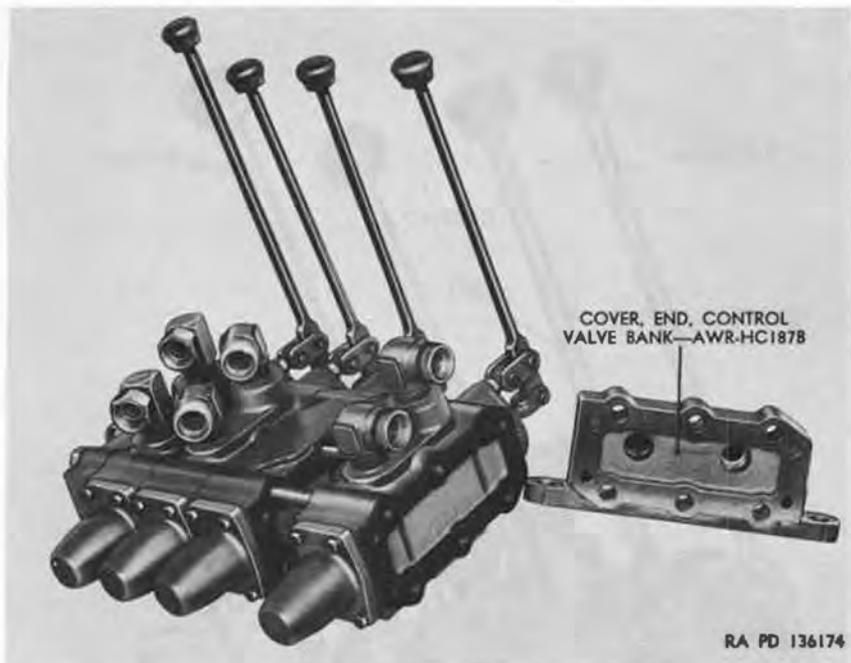
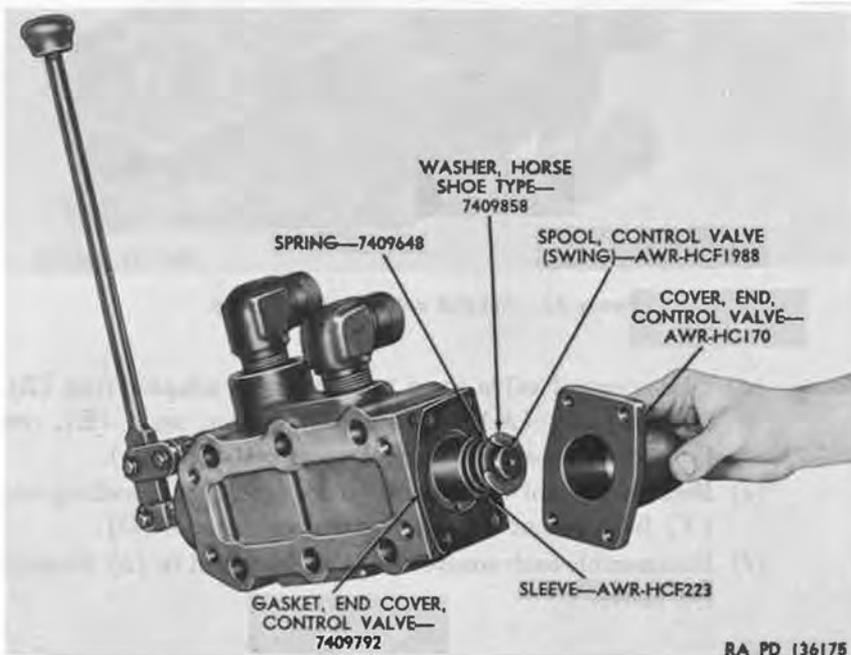

Figure 22. Control valve bank end cover separated from control valve bank assembly.
Figure 23. Removing control valve end cover.
- (1) *Disassemble control valve bank assembly.* Remove six hex nuts and lockwashers from end of control valve bank assembly and remove control valve bank end cover (fig. 22). Separate valve bank into individual control valves.
- (2) *Disassemble individual control valve.*
- (a) Remove four cap screws (UU) and washers and lift off control valve end cover (TT) and gasket (fig. 23).
- (b) Compress spring slightly and remove horseshoe-type washer (fig. 23), spacer, spring, and plain washer from rear end of (swing) control valve spool.
- (c) Remove cotter pins from the two lever retaining pins and take off control valve lever (P) and linkage from front end of control valve. Remove cap screw (H) beneath control valve spool and eye bolt (R) above control valve spool, and take off control valve spool, front cover (F).